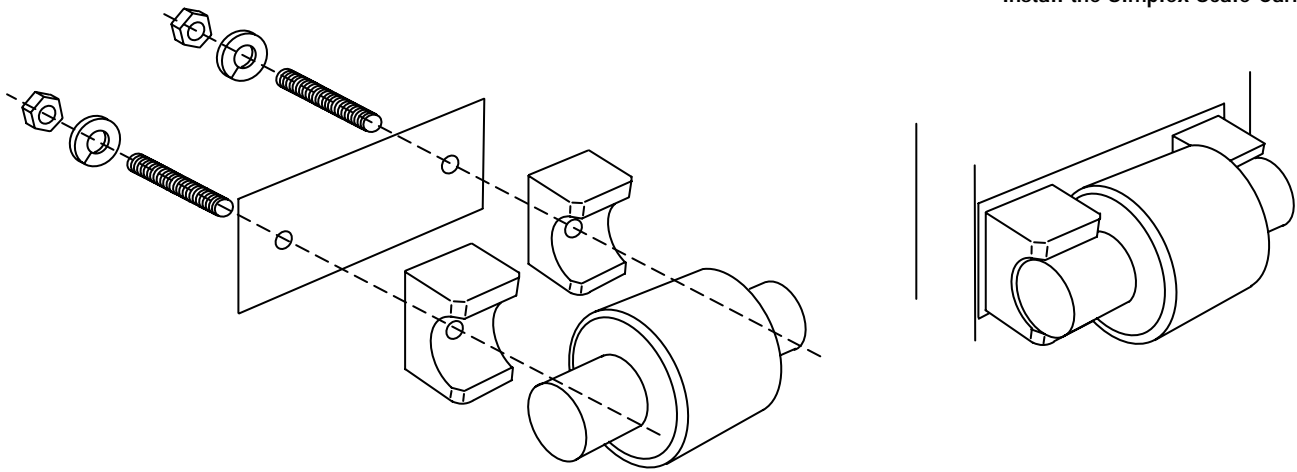

Figure 2-7: Side Roller Assembly
5. Mount the two side roller assemblies (including shims) on the scale carriage (see Figure 2-7). Do not use the bolts that were removed from the lift bracket. Instead, use the studs and nuts provided with the scale carriage. Align the two holes in each side roller assembly with the holes located midway between the two bolted rollers on each side of the carriage. Insert the studs in the holes and screw them into the assembly. Then place the washers and nuts on the ends of the studs and tighten them against the carriage.